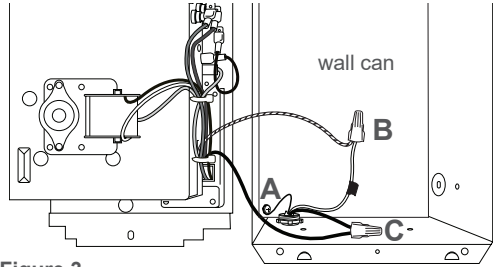

Figure 3
A. Connect supply ground wire to grounding screw in wall can (See Figures 3 and 4).
For 240 or 208 volts, it doesn't matter which heater wire. Both supply wires (black and white) are hot. Wrap supply (white) wire with black tape to identify it as hot (Figure 3).
C. Connect the remaining supply wire to the remaining heater wire with a wire connector (not included) (See Figures 3 and 4).